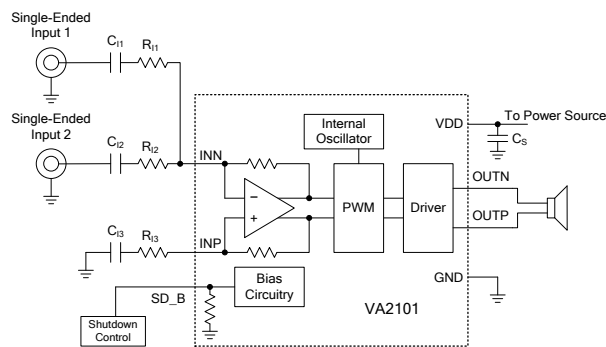

Figure 5. Dual Single-Ended Input Configuration
When using more than one single-ended source as shown in Figure 5. The gain and cut-off frequency (f_{C1} and f_{C2}) for each input source can be set independently, shows in Equation (5) ~ Equation (8). Resistor, R_{I3} , and capacitor, C_{I3} , are needed on the INP terminal to match the impedance on the INN terminal. Equation (9) and Equation (10) shows how to calculate C_{I3} and R_{I3} value. The single-ended inputs must be driven by low impedance source even if one of the inputs is not outputting an AC signal.